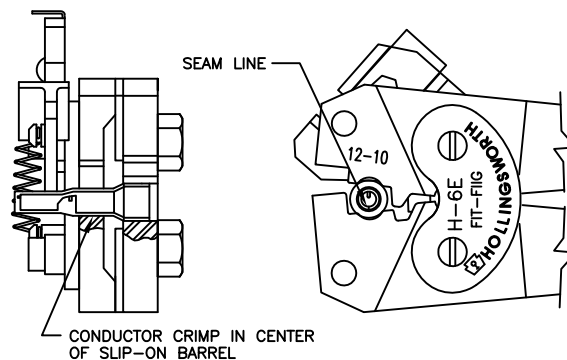

FIG. 9
2. Position the connector in the nest, as shown in Fig. 9. The crimp cycle remains the same as other configurations.